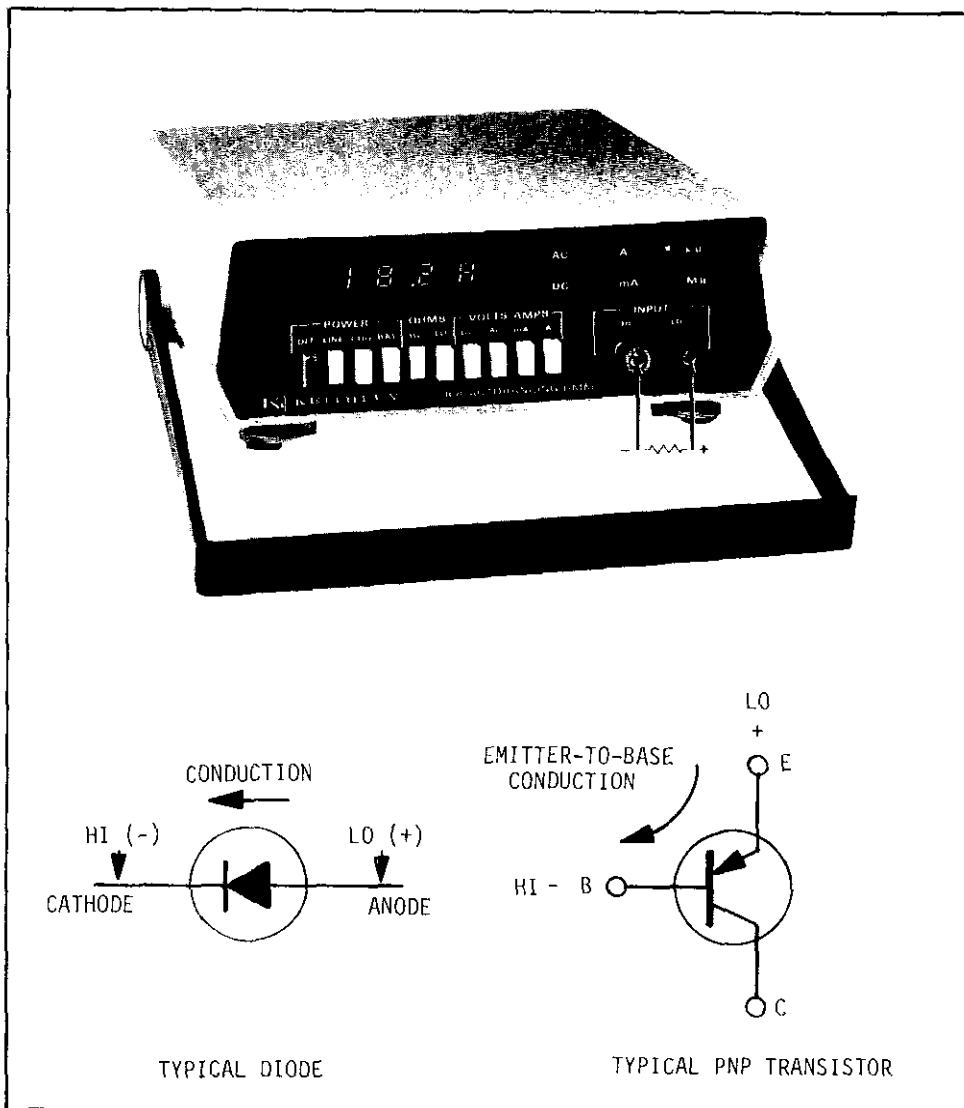

FIGURE 13. Diode and Semiconductor Testing.
f. How to Test Semiconductor Diodes and Transistors. The Model 168 can be used to test diodes and transistors to determine the condition of the device. For semiconductor diodes, the voltage applied must be sufficient to cause conduction in the forward direction. The "HI OHMS" mode of the Model 168 provides a voltage up to 2 volts at a current of 1 milliamperes, which is sufficient to cause conduction. Since the "LO" terminal is positive with respect to the "HI" terminal for all resistance measurements, connections should be made as shown in Figure 13 to cause forward conduction of diodes.